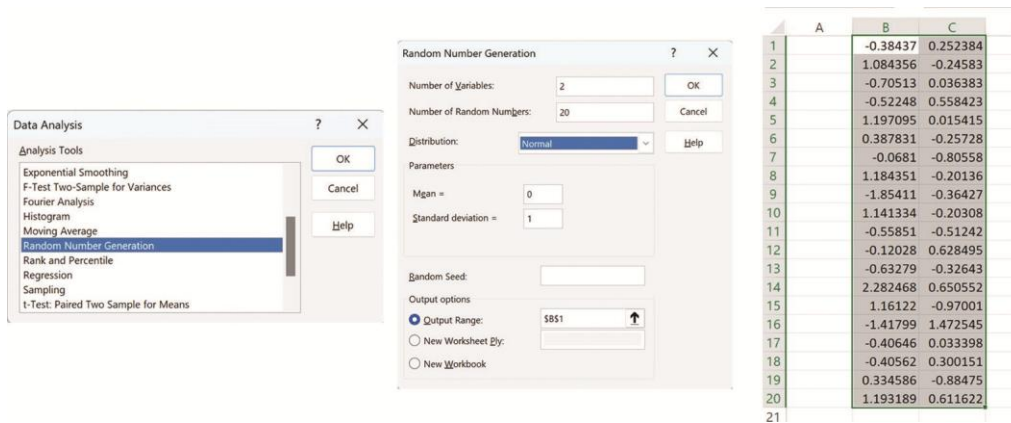

Figure 12.36: Random number generator values
2. Use the Analysis ToolPak Random in Figure 12.36 – we obtained the requested numbers. You can find it on the sheet named Random numbers.